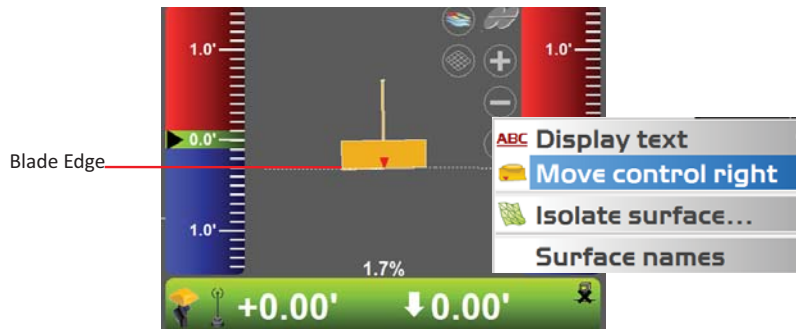

Figure 15: Setting the Blade Position With Section View
3. On the pop-up menu, tap **Move control left** or **Move control right**. The blade control arrow moves accordingly (Figure 15).